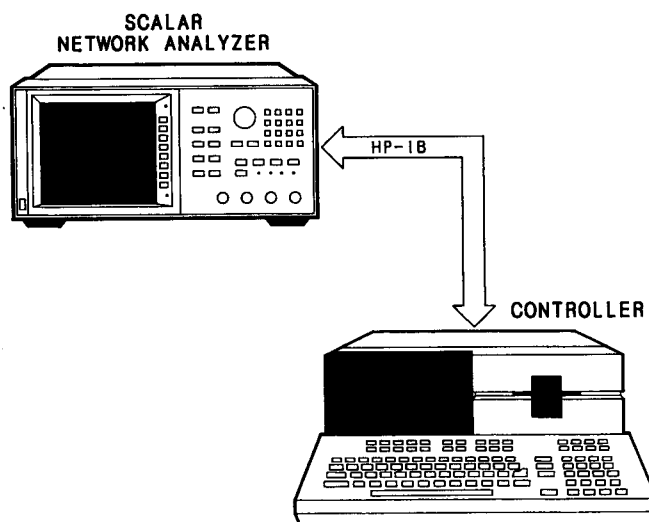

Figure 3-5. HP 8757A Calibration Setup
1. Connect the equipment as in Figure 3-5.